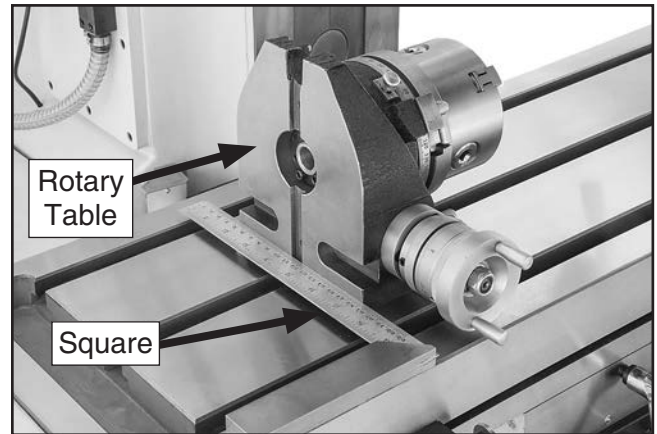

Figure 21. Using a precision square to align with X-axis.
2. Position a precision square across front edge of mill table and adjust rotary table flat against square, as shown in **Figure 21**, then clamp rotary table in place.